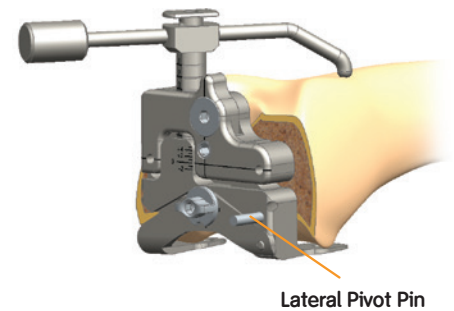

Figure 20
3. Place the appropriate sizing guide (left or right) flush against the resected distal femur. Ensure the posterior paddles are contacting the underside of both posterior condyles. Once correct position of sizing guide is established, place a pin through the hole just above the lateral paddle (Figure 20).